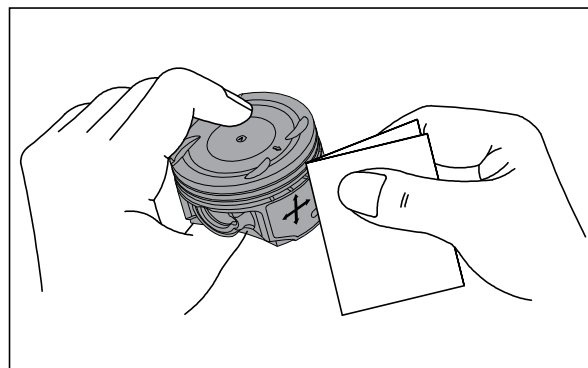

Fig. 3.93
- If a piston sliding surface is badly scored or scuffed due to overheating, it must be replaced. Shallow grooves or minor scuff can be removed by smoothing with a fine emery paper (400 grade). (Fig. 3.93) Inspect the piston for damage or crack. Replace if required.